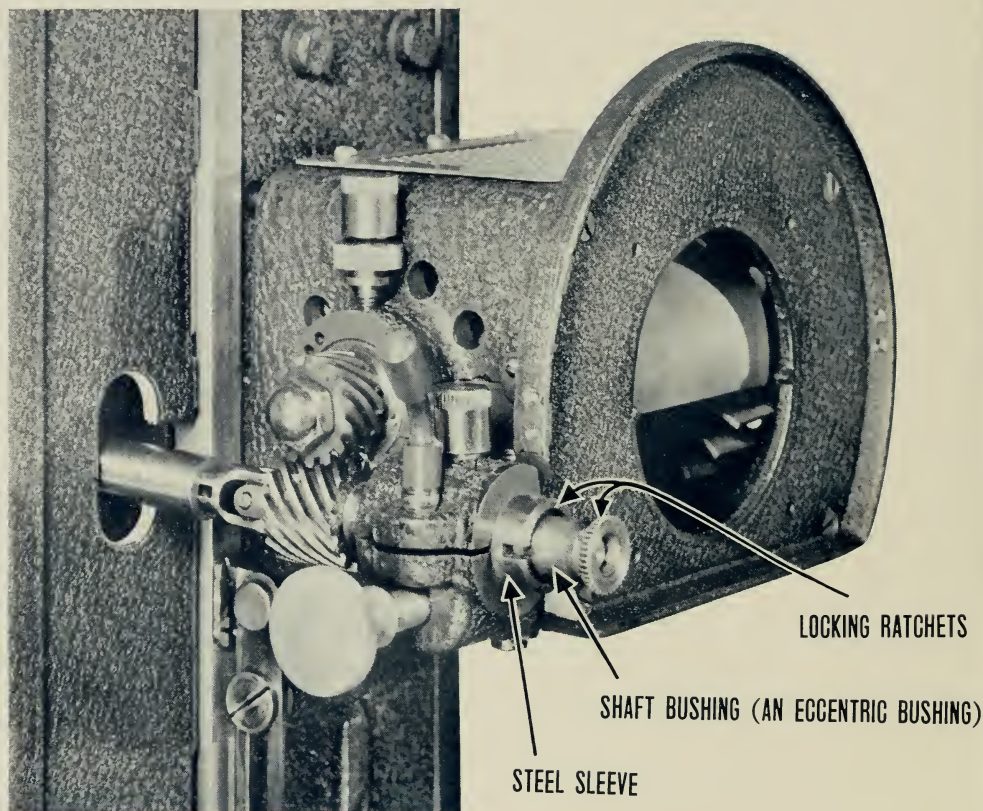

Fig. 12. Photo-diagram for adjustment of shutter gears
3. With the blade of a small screw driver, pry the bushing out of the steel sleeve far enough to free its teeth (Fig. 12).